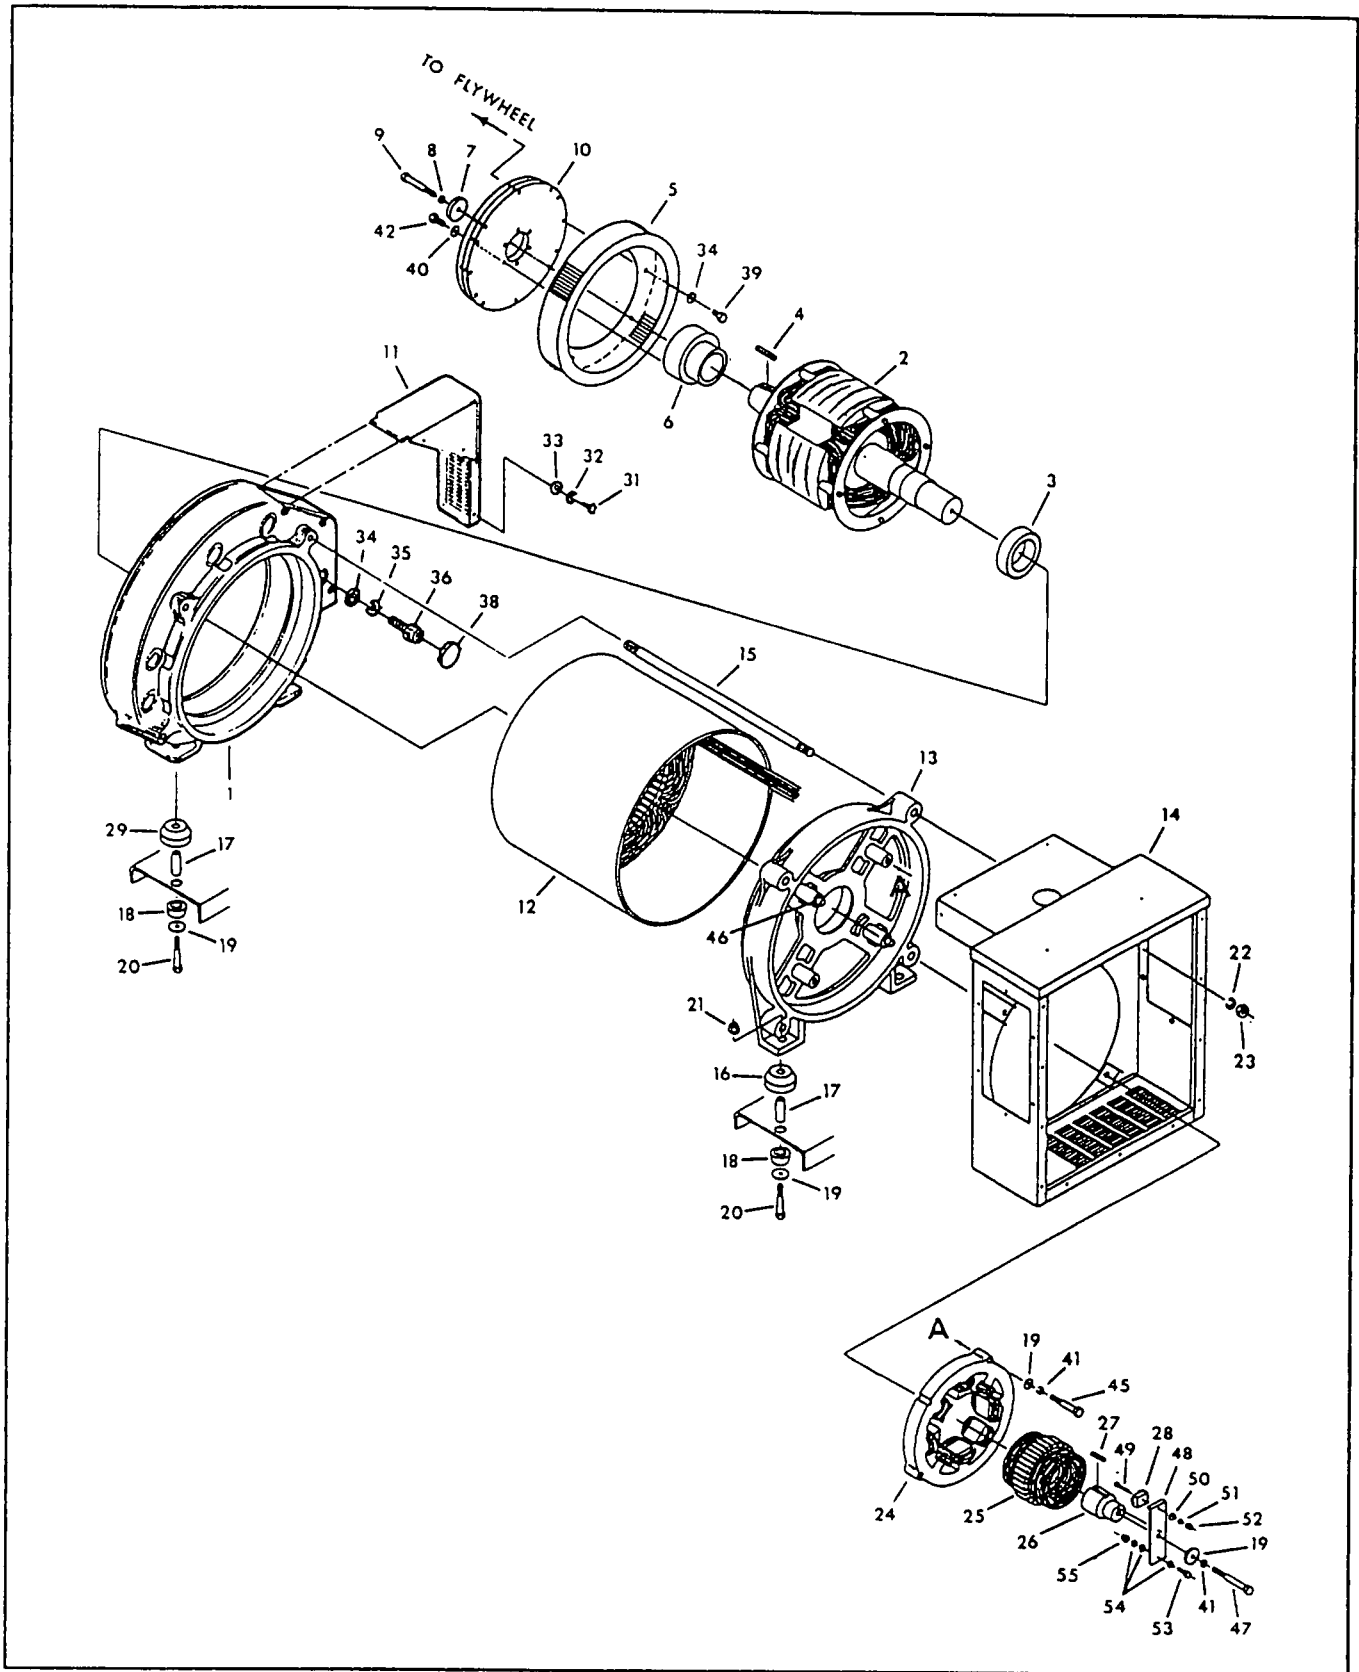

Figure 1. Exploded View of a Typical Brushless Generator
See Figure 1 on next page. A typical brushless generator consists of the following major components:
***Parts List for Figure 1***